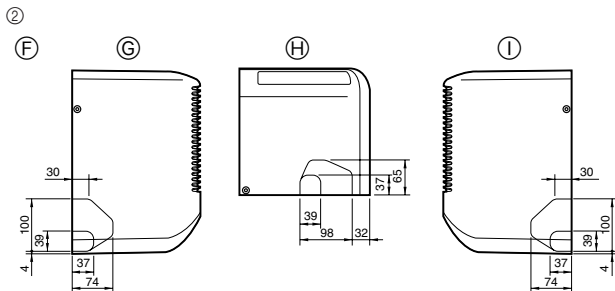

Fig. 4-3
- Determine the position of the knockout holes on the unit body (Fig. 4-3)